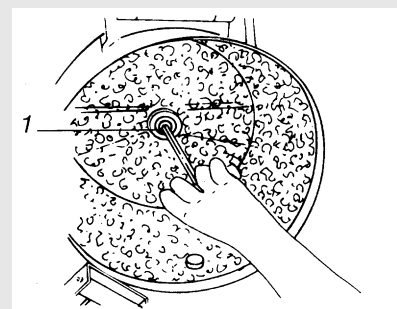

Fig.14
- Loosen the central nut 1 Fig. 14.